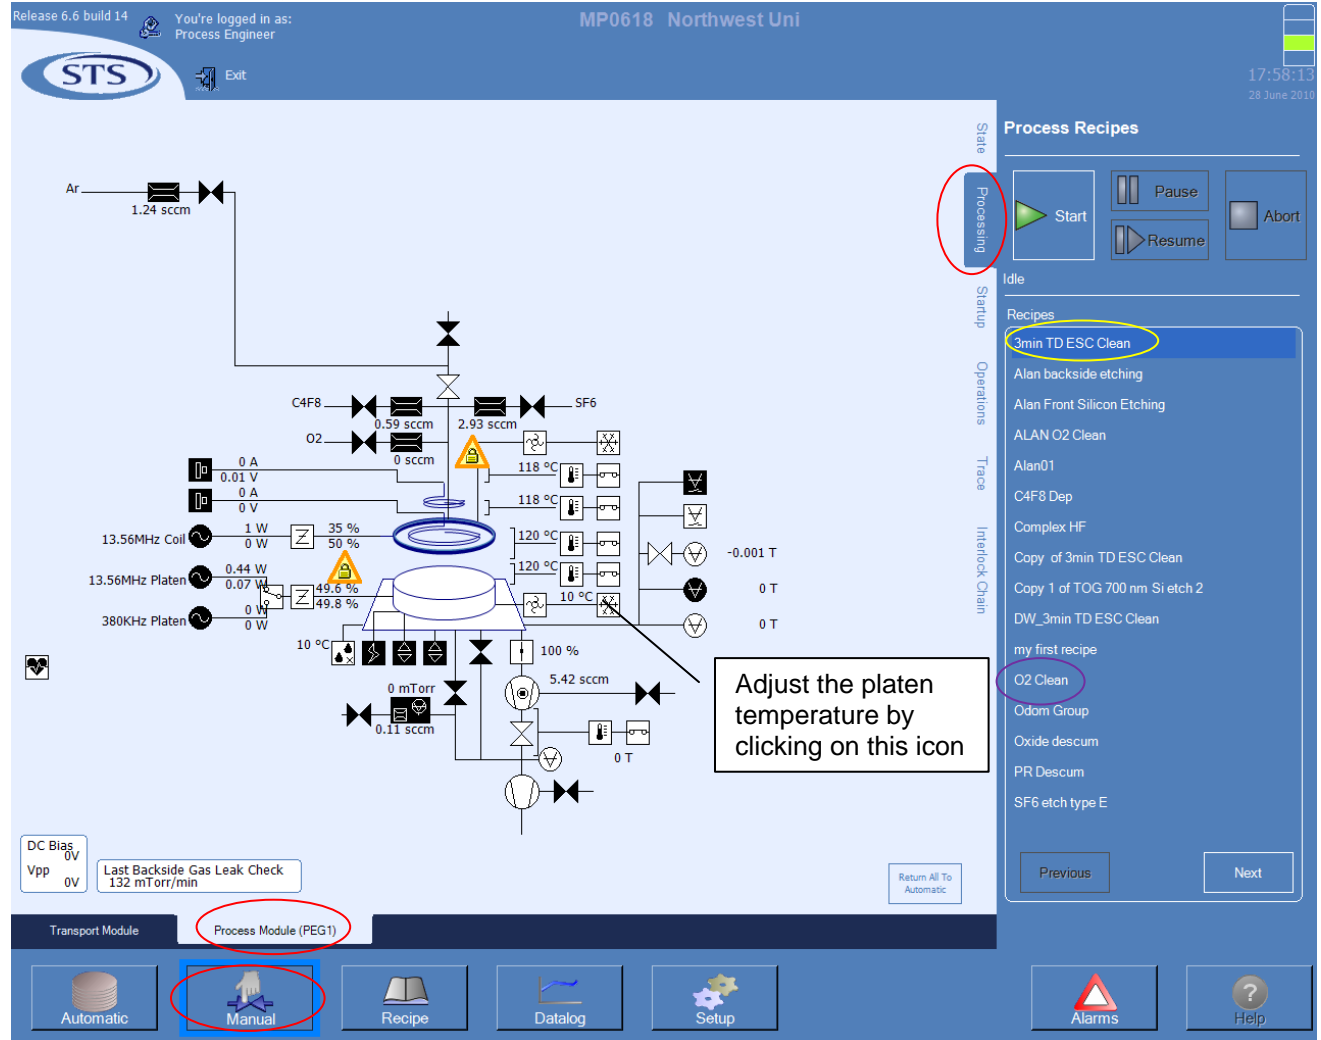

Figure 2: Running a process recipe.
- To display the screen shown in Figure 2 on the operation computer, select 'Manual', 'Process Module (PEG1)', and 'Processing' tabs in this order. These are circled in red.
- Adjust the platen temperature to the desired temperature for your depositions. To adjust, click on the heater icon (Figure 2) and enter the new value in the menu that shows up on the right side of the screen. Most commonly used temperature is 10-20°C.
- a) Go to the screen shown in Figure 2 (Manual, Process Module, Processing).